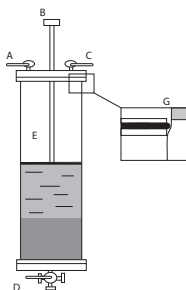

Fig 3. Schematic representation of INdEX column with a 4-port (2-way) valve mounted at the bottom outlet.
| 2 | Pour the 75% slurry into the column. Fill the column with packing solution up to the top of the glass tube and mix the slurry. Allow the resin to sediment to just below the bevel of the glass tube (G), see Figure 3, on page 19 . |